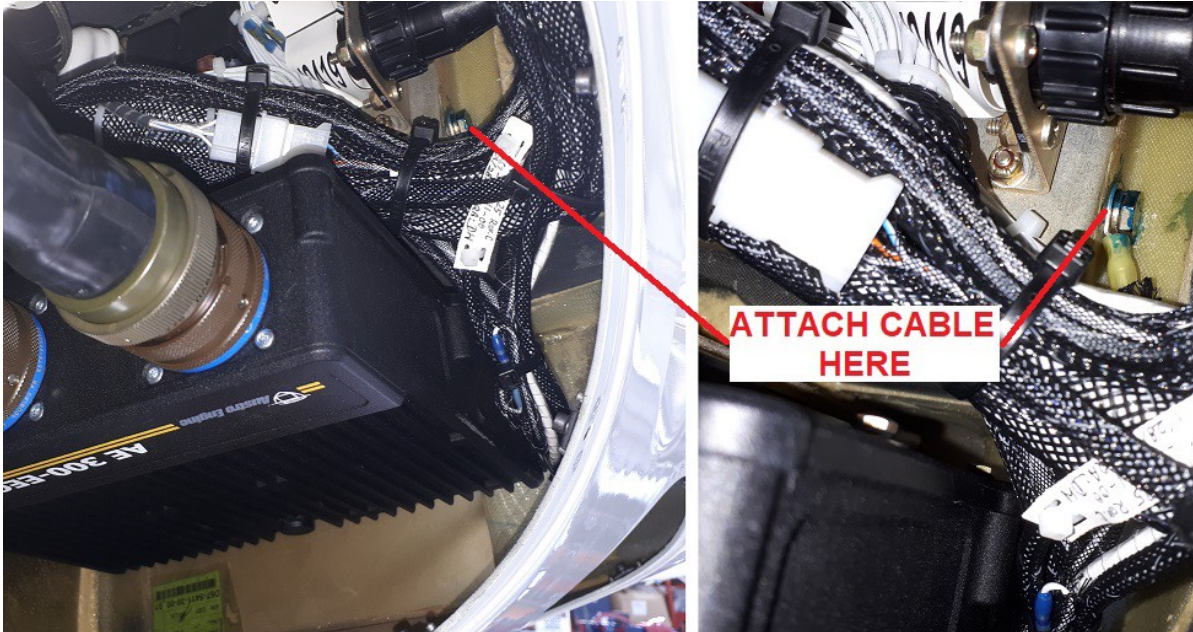

Figure 3. Left: relay panel seen looking aft into the nacelle through the forward access panel. Right: zoomed view.
6. Install the other end of the bonding cable to the location shown in Figure 3. Use Nycote 7-11 blue.